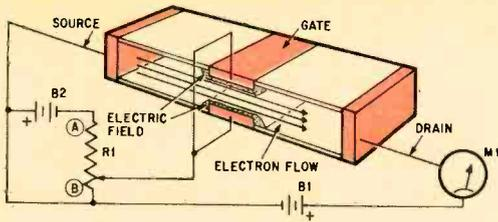

Fig. 3—A small negative voltage from B2 applied to gate causes electric field (gray dots) to narrow the channel through which the electrons flow.
**How The FET Amplifies.** We must be able to control a flow of electrons in order to amplify. Take a look at Fig. 3 and recall what we said about the silicon bar acting as a resistance. When the potentiometer's wiper arm is just above *B* electrons from *B2*'s negative terminal appear at the gate. These electrons diffuse into the bar and their concentration is greater at the right side of the gate. Reason for this is that the bar gets progressively more positive as you go from source to drain. Therefore, more electrons are pulled into the bar at the more-positive right side of the gate.